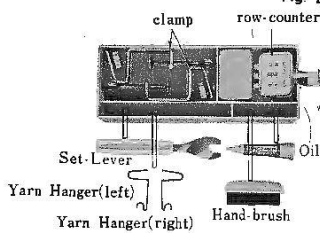

Fig. 30
c. Replace the small carriage (Picker), hand brush, lubricate tube etc. into the parts box. (See Fig. 30)